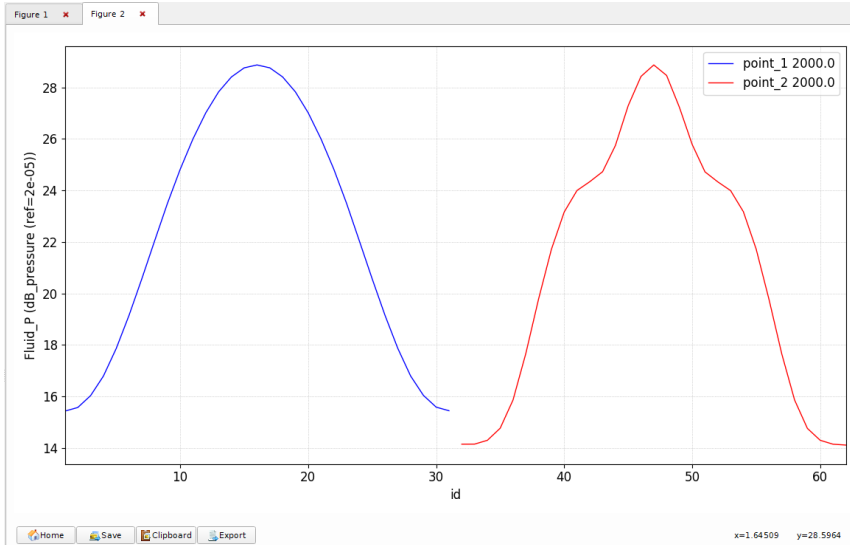

Figure 6.44: Directivity curves of pressure at 2000Hz
- In the second series of field points, plot the sound pressure level (SPL) in dB for all the points at 2000Hz. The resulting curves are shown in Figure 6.44.